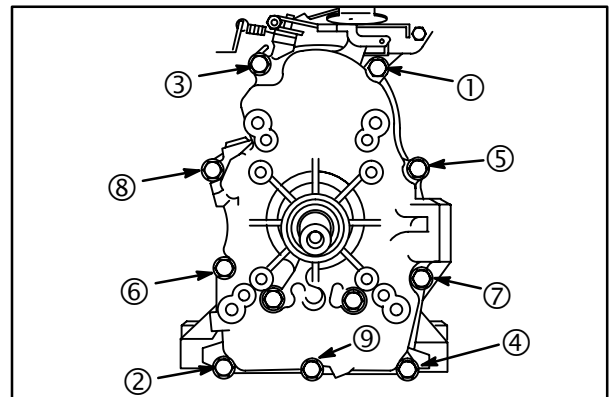

Fig. 9
4. Install crankcase cover or sump with new gasket. Torque screws in sequence, **Fig. 9**, to **150 in. lbs. (17 Nm)**.